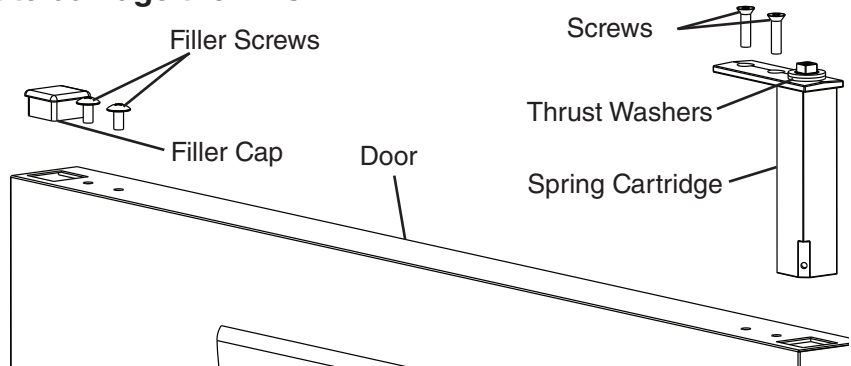

Fig. 16
- 8) Remove the filler cap, filler screws, and spring cartridge. See Fig. 16. Leave the thrust washers in place on the spring cartridge. **NOTICE! Spring cartridge may be difficult to remove. Be careful not to damage the finish.**